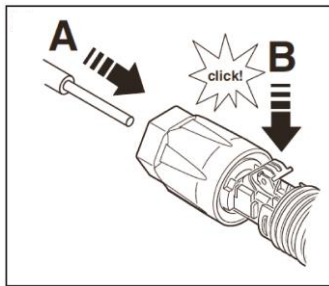

Figure 5-11
- 4) Carefully insert the stripped litz wires all the way in (Figure 5-11, A). The litz wire ends have to be visible in the spring.
- 5) Close the spring making sure that the spring is snapped in (Figure 5-11, B).